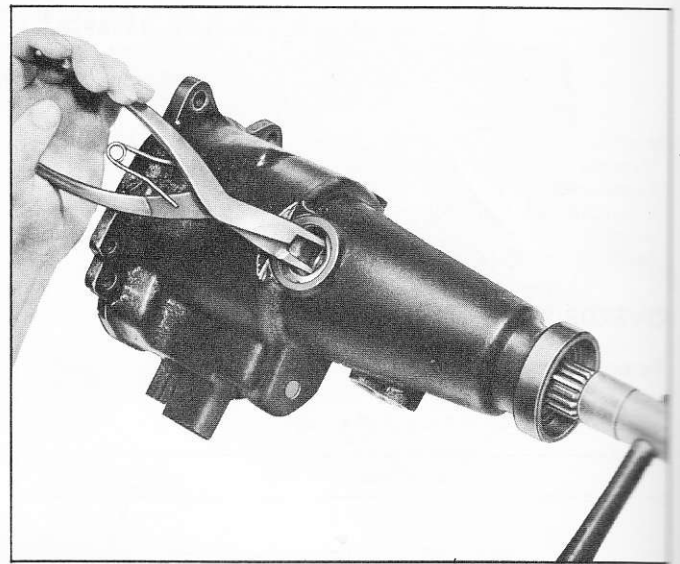

Fig. 4B—Removing Output Shaft from Housing
3. Spread rear bearing snap ring with snap ring pliers and lightly tap end of shaft with a soft hammer to free bearing from snap ring (fig. 4B), then pull shaft, including ring gear, speedometer drive gear and rear bearing, from housing.